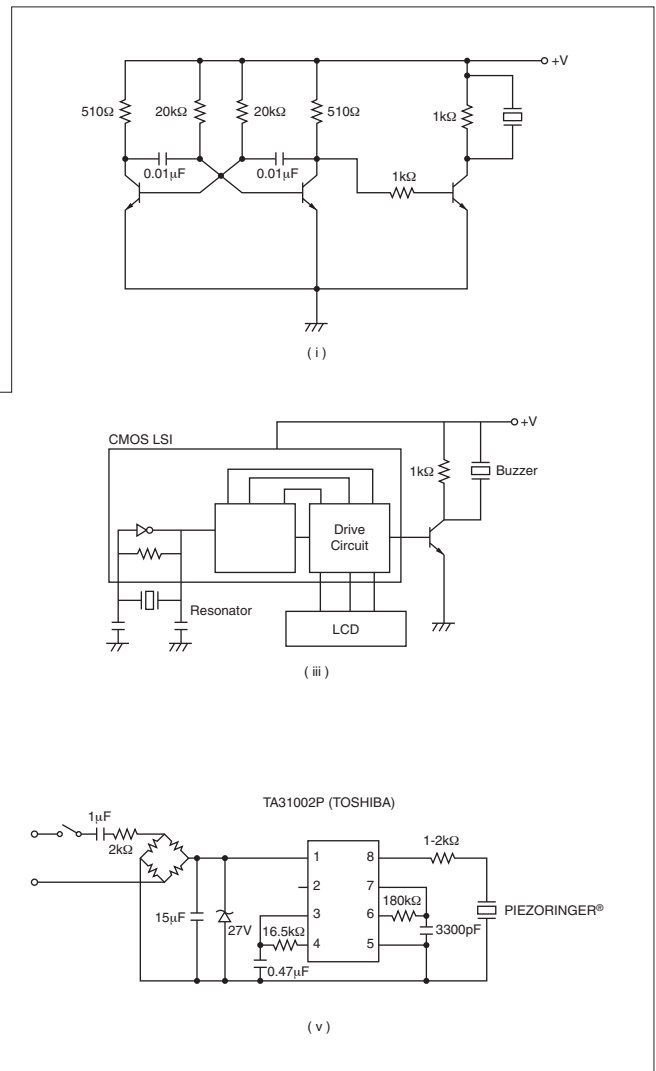

Fig. 6 Examples of the external drive circuits
Fig. 6 shows examples of the circuit to which the external drive method is applied:
- ① (i), (ii), (iii) in Fig. 6, input D.C. voltage for Piezoelectric sound components should be getting larger.
- ② (i), (ii), (iii) in Fig. 6, the resistor that is connected in parallel should be changed to a booster coil (approx. 20-50mH).